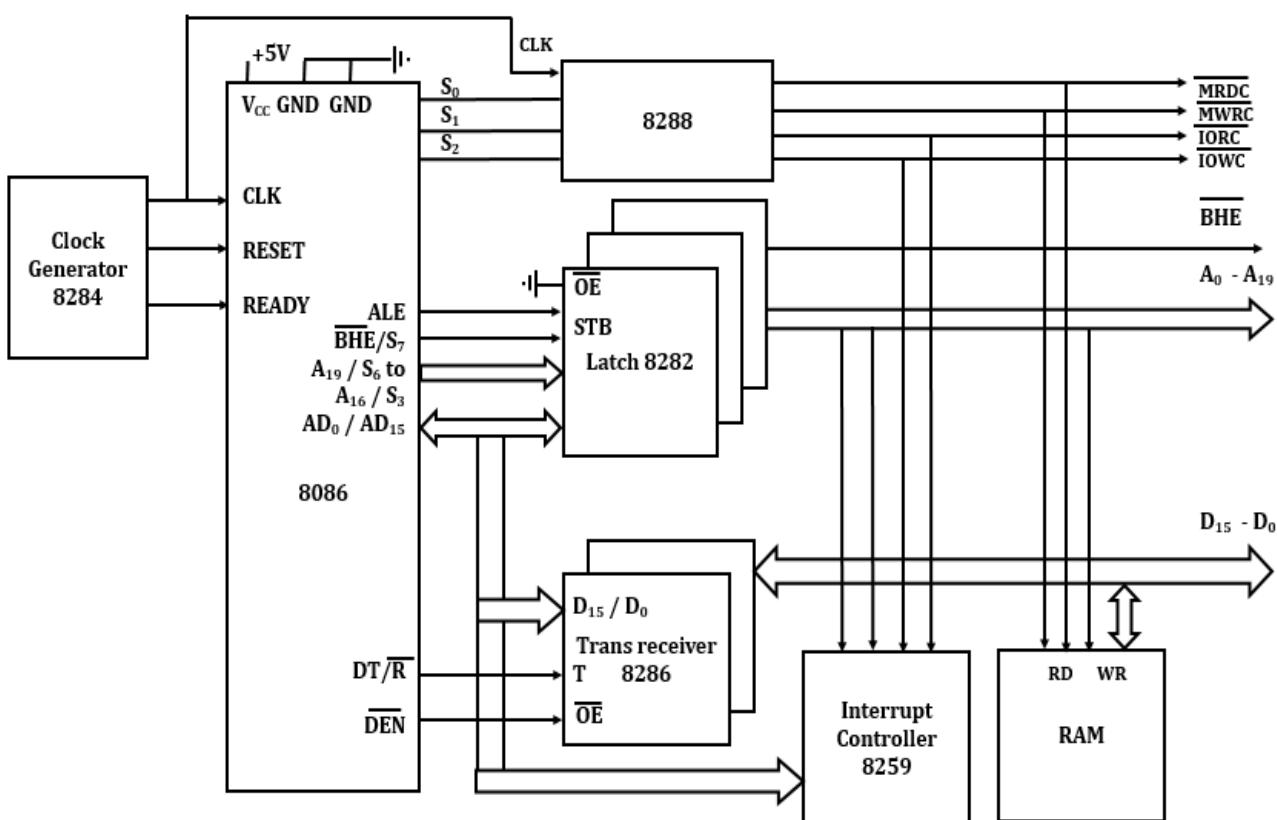

Figure 1.4: Maximum Mode of 8086.
18. Figure 1.4 shows the Maximum Mode Block Diagram of 8086.